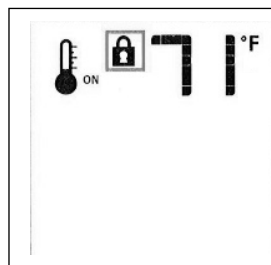

Figure 92. Lock ON.
- To activate the Lock, press the Mode key and UP Key at the same time. Fig. 92.